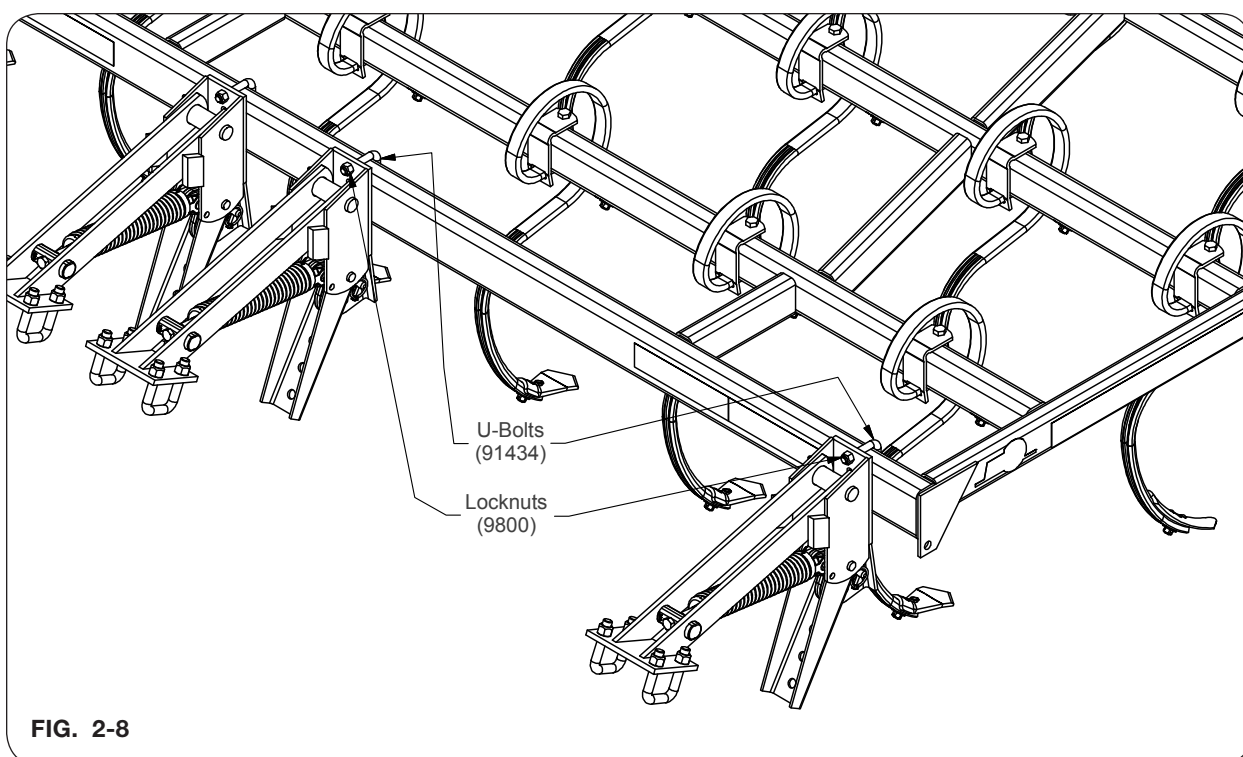

FIG. 2-8
1. Install mounting arms onto the rear of the main frame tube with one 1/2"-13UNC U-bolt (91434) and two locknuts (9800) per arm (Fig. 2-8).